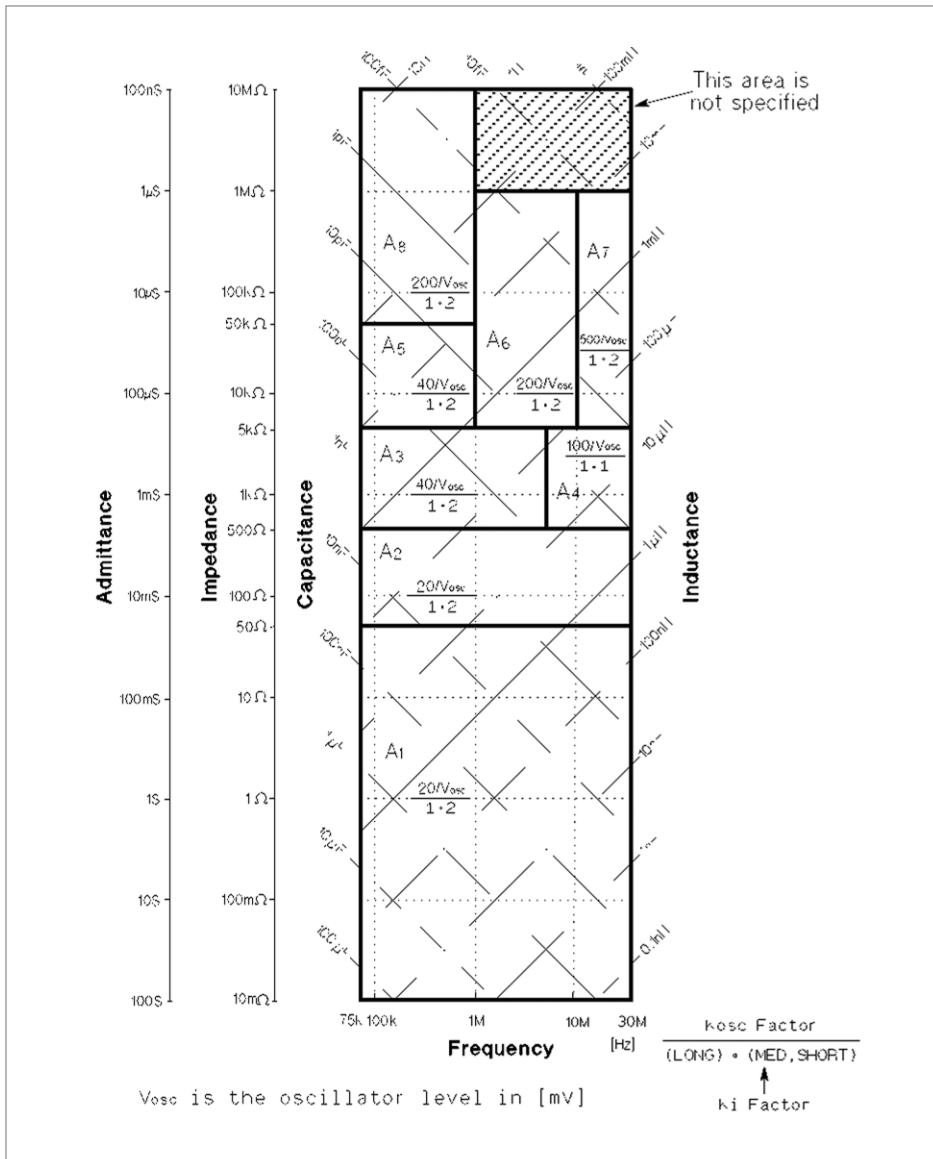
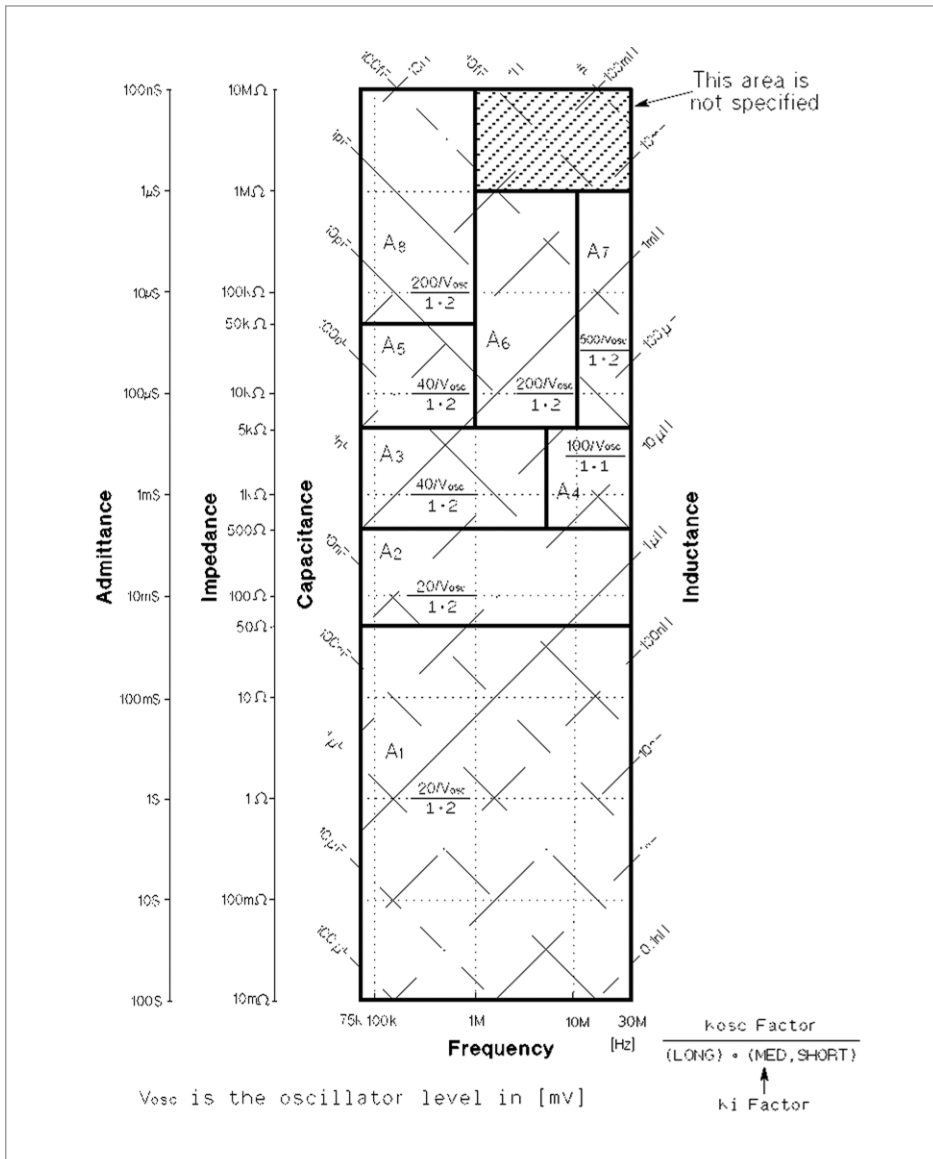

Figure 1-3. Accuracy equations, K_i factor, and K_{osc} factor (test signal level $\leq 1 V_{rms}$)
Figure 1-4. Accuracy equations and K_i factor (test signal level $> 1 V_{rms}$)
A_n = Basic accuracy equation given from the A_1 to A_{16} shown in Table 1-1. The applicable frequency range and impedance range of equations A_1 to A_{16} are shown in Figure 1-3 and Figure 1-4. (Refer to *Basic Accuracy Equations* on page 7.)
1. Determine A_n equation from Figure 1-3 or Figure 1-4. In both charts, boundary line belongs to the better accuracy area.
When the oscillator level is $\leq 1 V_{rms}$, determine A_n to be applied, value of K_j and value of K_{osc} from the Figure 1-3. If the determined $K_{osc} \leq 1$, then round up K_{osc} to 1.
When the oscillator level is $> 1 V_{rms}$, determine A_n to be applied and value of K_j from the Figure 1-4.
3. Choose an accuracy chart from Figure 1-3 and Figure 1-4. The oscillator level is 1 V_{rms}, then Figure 1-3 is chosen for this measurement.
4. Find the frequency point of f_m (25.2 MHz) along the X axis in Figure 1-3. Both axes are in log format. Interpolation may be required.
5. Find the impedance point of Z_m (35 Ω) along the Y axis in Figure 1-3 determined in step 2. Both axes are in log format. Interpolation may be required.